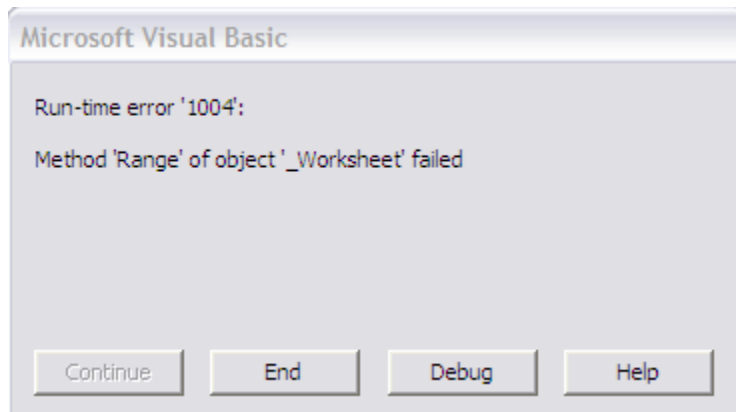

Figure D.1. Run-time error.
3. Run-time Error: If the pop up message appears as shown in figure D.1 click the **End** button to end the error. Then exit the tool and reopen it to ensure that the macros run properly.